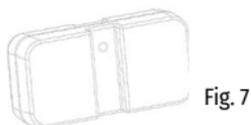

Fig. 7
- 1 pcs Tension Pulley Fig 7
You should assembly overspeed governor as shown the Figure 7.